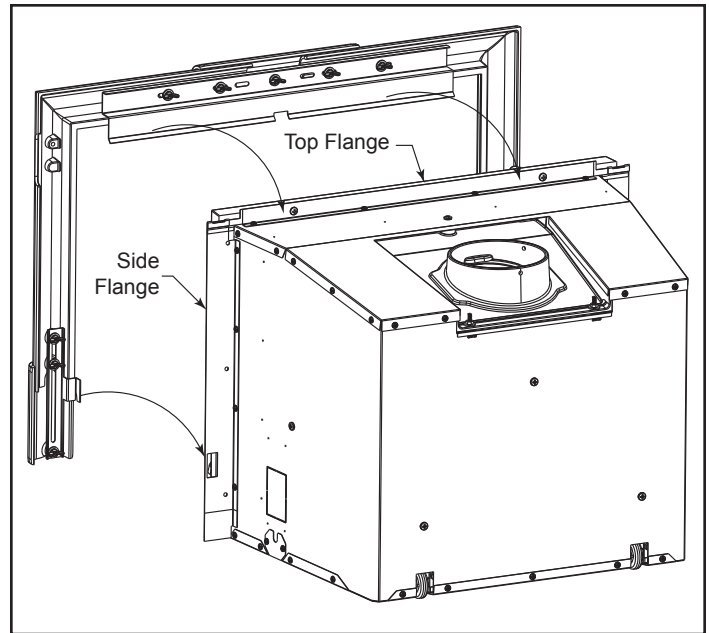

Figure 4 - Lift surround up and over top flange and up and through side flange holes.
6. Fasten the upper mounting bracket to both column assemblies using two (2) 1/4-20 wing screws and two (2) 1/4 flat washers per side, finger tight. The distance between the insides of the columns should measure 29-1/4" (743 mm) for the Montpelier and 31" (787 mm) for the Solstice.
8. **For the Montpelier Insert only:** Position the surround in front of the insert and, with the help of an assistant, gently lift the surround up and over the top sheet metal flange. At the same time, align the bottom brackets through the slots on the side flange. As you lower the surround onto the insert, the side clips and top bracket will engage. If height and width adjustments are required, lift the surround up and out. Make the adjustments. Regardless if adjustments were made or not, tighten all wing screws fasteners and return the surround to the insert, Figure 4.